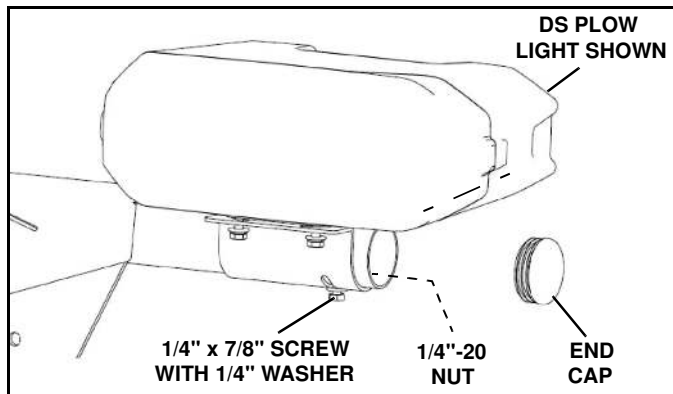

Figure 1-17
7. Install a 1/4" x 7/8" screw with 1/4" washer through each clamp and light bar and loosely secure with a 1/4"-20 nut. (See Figure 1-17)
10. Aim plow lights with plow in the fully raised position. Lock the lamps in the adjusted position by tightening four 1/4" x 7/8" horizontal adjustment screws and one 1/4" x 7/8" vertical adjustment screw and 1/4" nut securely. (See Figure 1-17)
11. Install an end cap in each end of the light bar. (See Figure 1-17)